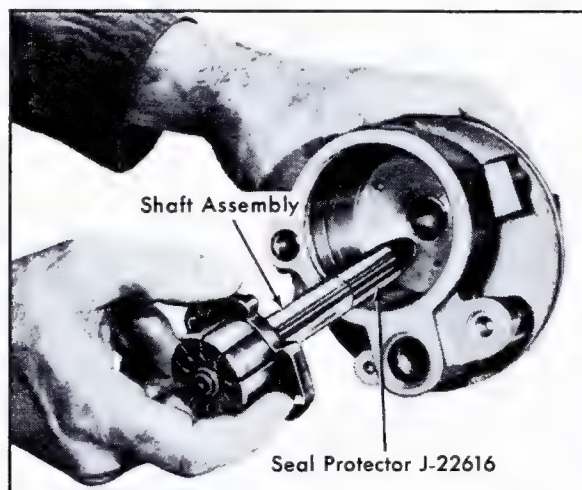

Fig. 9-16 Installing Pump Shaft Assembly
7. Insert drive shaft with thrust plate and rotor into housing, using Seal Protector, J-22616, Fig. 9-16. Make sure that shaft is properly seated.